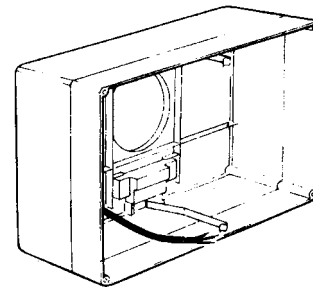

Fig. 7 Cable entry.
- f) Feed the supply cable through the cable entry Fig. 7. Connect the wiring to the internal terminal block/socket.